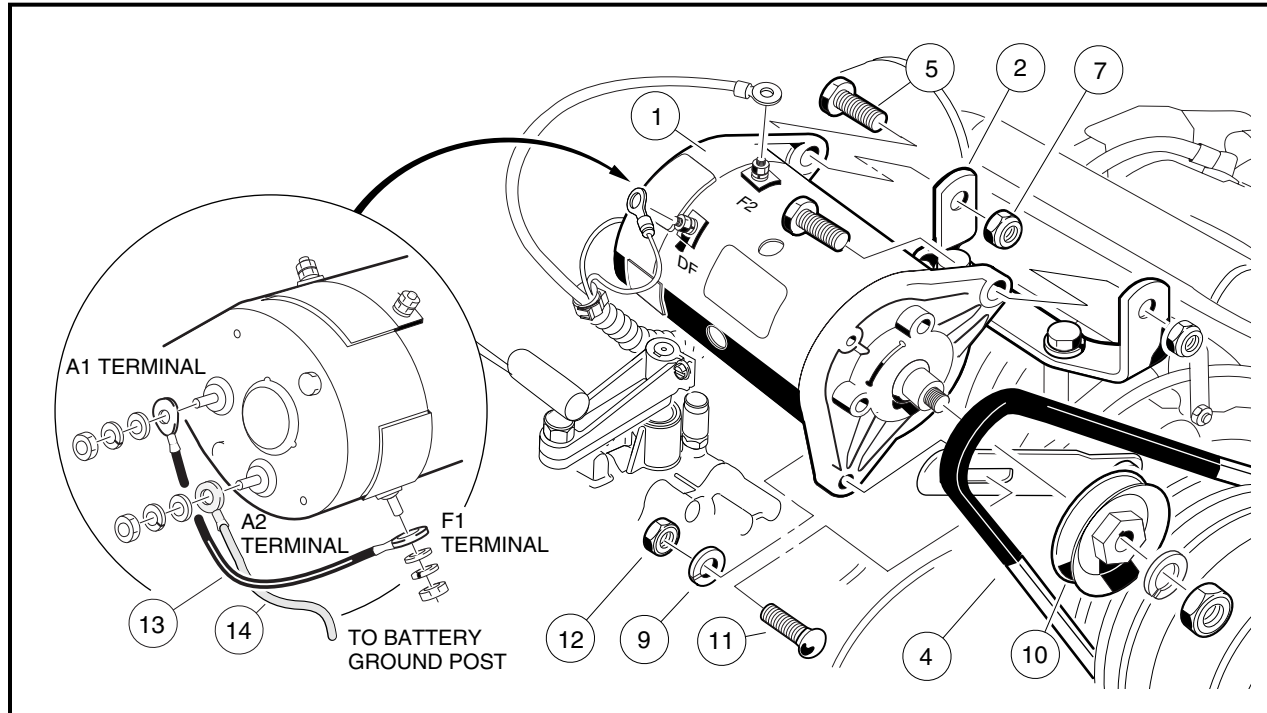

Figure 12-2 Starter/Generator Removal
3. Disconnect the wires from the starter/generator (1). Mark wires before disconnecting. Loosen the pivot nuts (7) and bolts (5) (**Figure 12-2, Page 12-2**).
4. Remove the mounting/adjustment nut (12), lock washer (9) and bolt (11). Lower the starter/generator and slip the belt (4) off the pulley (10).
5. Support the starter/generator so that when the pivot bolts are removed the starter/generator will not fall to the ground. Remove the two pivot nuts (7) and bolts (5) from the mounting bracket.